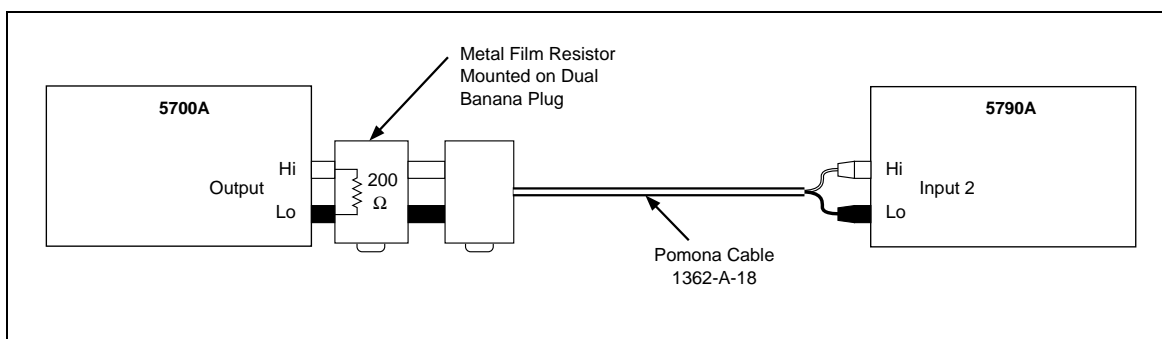

Figure 3-10. Alternating Current Test Setup 2 mA and 200 μ A
1. Connect the equipment as shown in Figure 3-10.